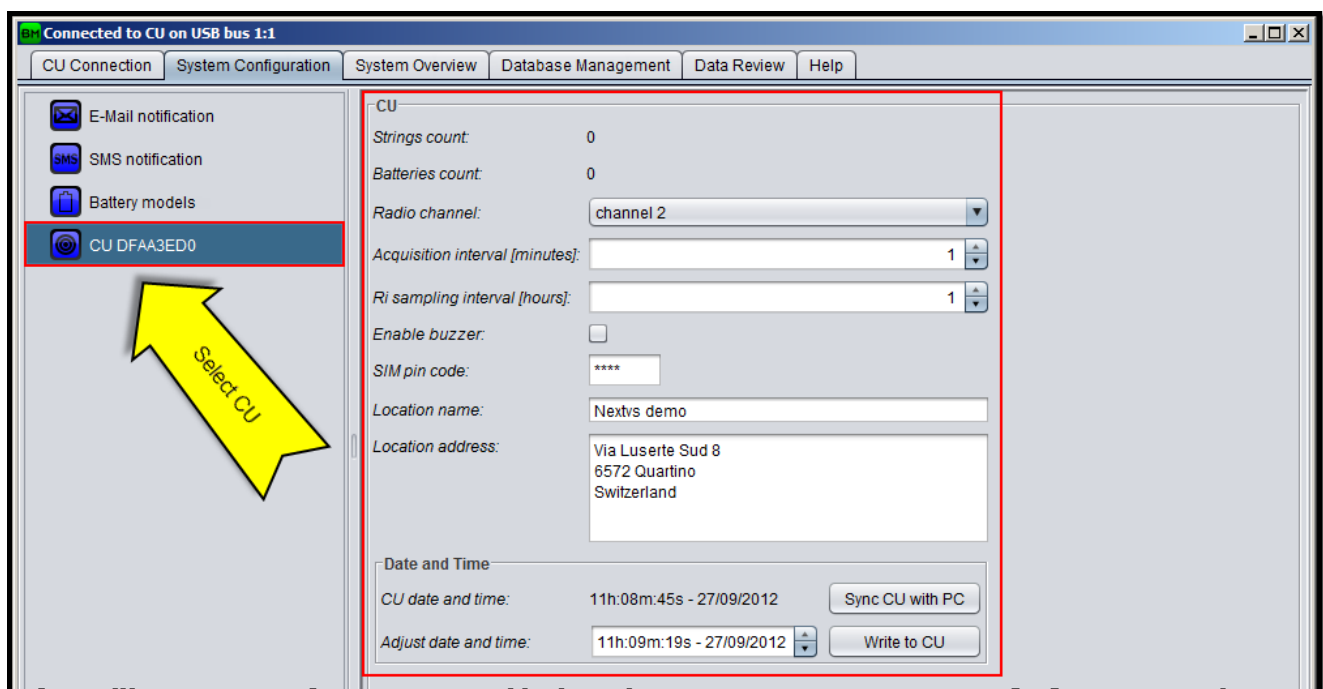

Figure 24: CU configuration
12. Select the CU as shown on Figure 24.